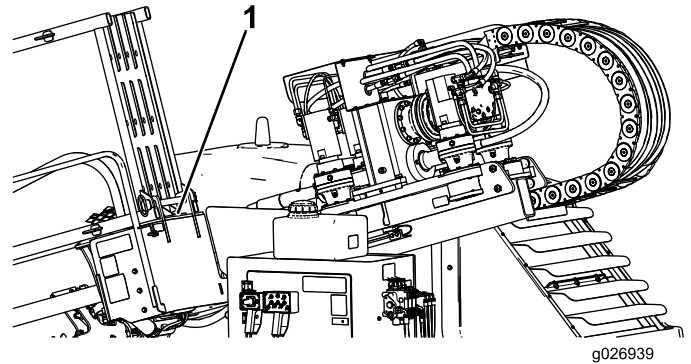

Figure 103
7. Store the cylinder lock at the rear of the pipe holder (Figure 103).